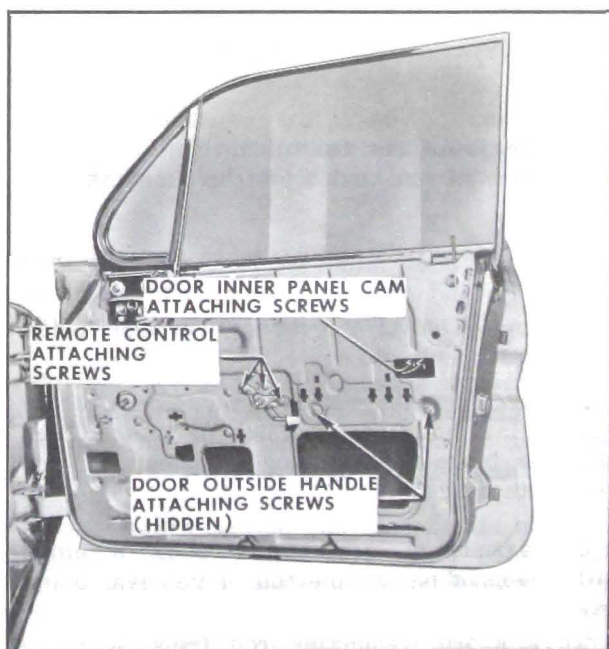

Figure 2-15—Front Door Outside Handle Attachment
2. Through access hole, remove screws securing outside handle to door outer panel and remove handle and gaskets (see Figure 2-15).
2. Remove screws securing door inner panel cam assembly, then disengage cam from window regulator balance arm and remove from door (see Figure 2-15).
2. Remove remote control attaching screws and disengage remote control from connecting rod (see Figure 2-15).